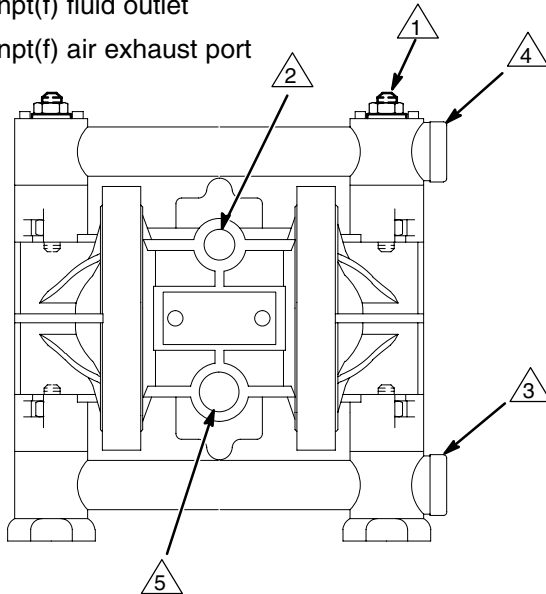

Fig. 2
- b. Locate one bleed-type master air valve (B) close to the pump and use it to relieve trapped air. See the **WARNING** above. Locate the other master air valve (E) upstream from all air line accessories and use it to isolate them during cleaning and repair.
- c. The air line filter (F) removes harmful dirt and moisture from the compressed air supply.
2. Install an electrically conductive, flexible air hose (C) between the accessories and the 1/4 npt(f) pump air inlet (see Fig. 2). Use a minimum 1/4" (6.3 mm) ID air hose. Screw an air line quick disconnect coupler (D) onto the end of the air hose (C), and screw the mating fitting into the pump air inlet snugly. Do not connect the coupler (D) to the fitting yet.
- The pump fluid inlet is 3/8 npt(f). See Fig. 2. Screw the fluid fitting into the pump inlet snugly. Use a compatible liquid thread sealant or PTFE tape on connections to prevent air from getting into material line.
- Use electrically conductive fluid hoses (N). The pump fluid outlet is 3/8 npt(f). See Fig. 2. Screw the fluid fitting into the pump outlet snugly.
The pump is shipped with the fluid inlet and outlet ports facing the same direction. See Fig. 2. If desired, the direction of one or both ports can be changed. Remove the manifold(s) from the pump as explained in steps 1, 2, and 4 on page 21. Reattach with the port facing the desired direction. See **Torque Sequence**, page 32. **Do not over-torque.**